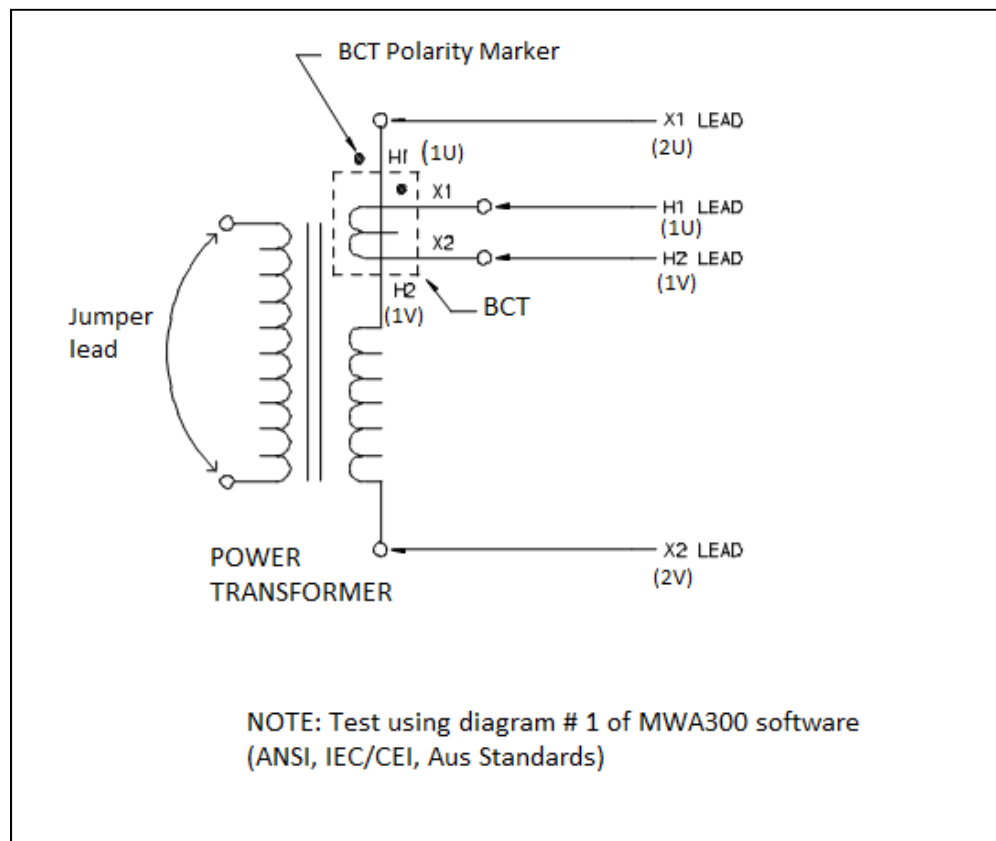

Figure 6-10 Setup for Testing BCT Mounted on Single-Phase Two-Winding Transformer – Use vector diagram 1P0
3. Connect the clamp marked X1(2U) to the power transformer terminal on which the BCT is mounted and the X2(2V) clamp to the terminal on the opposite side of the power transformer winding (H2(1V) side of BCT). Ensure that the BCT polarity connections are correct. (See Figure 6-10).